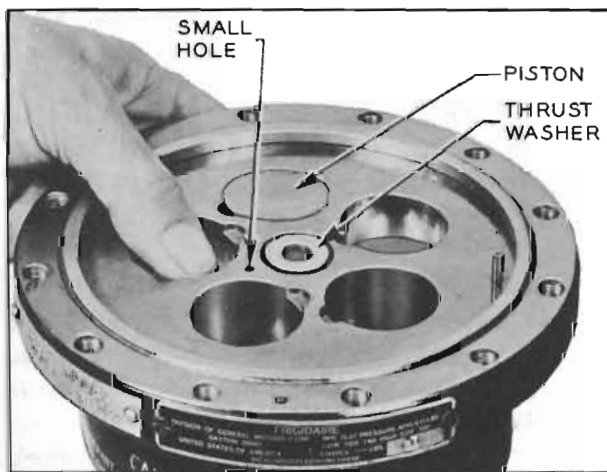
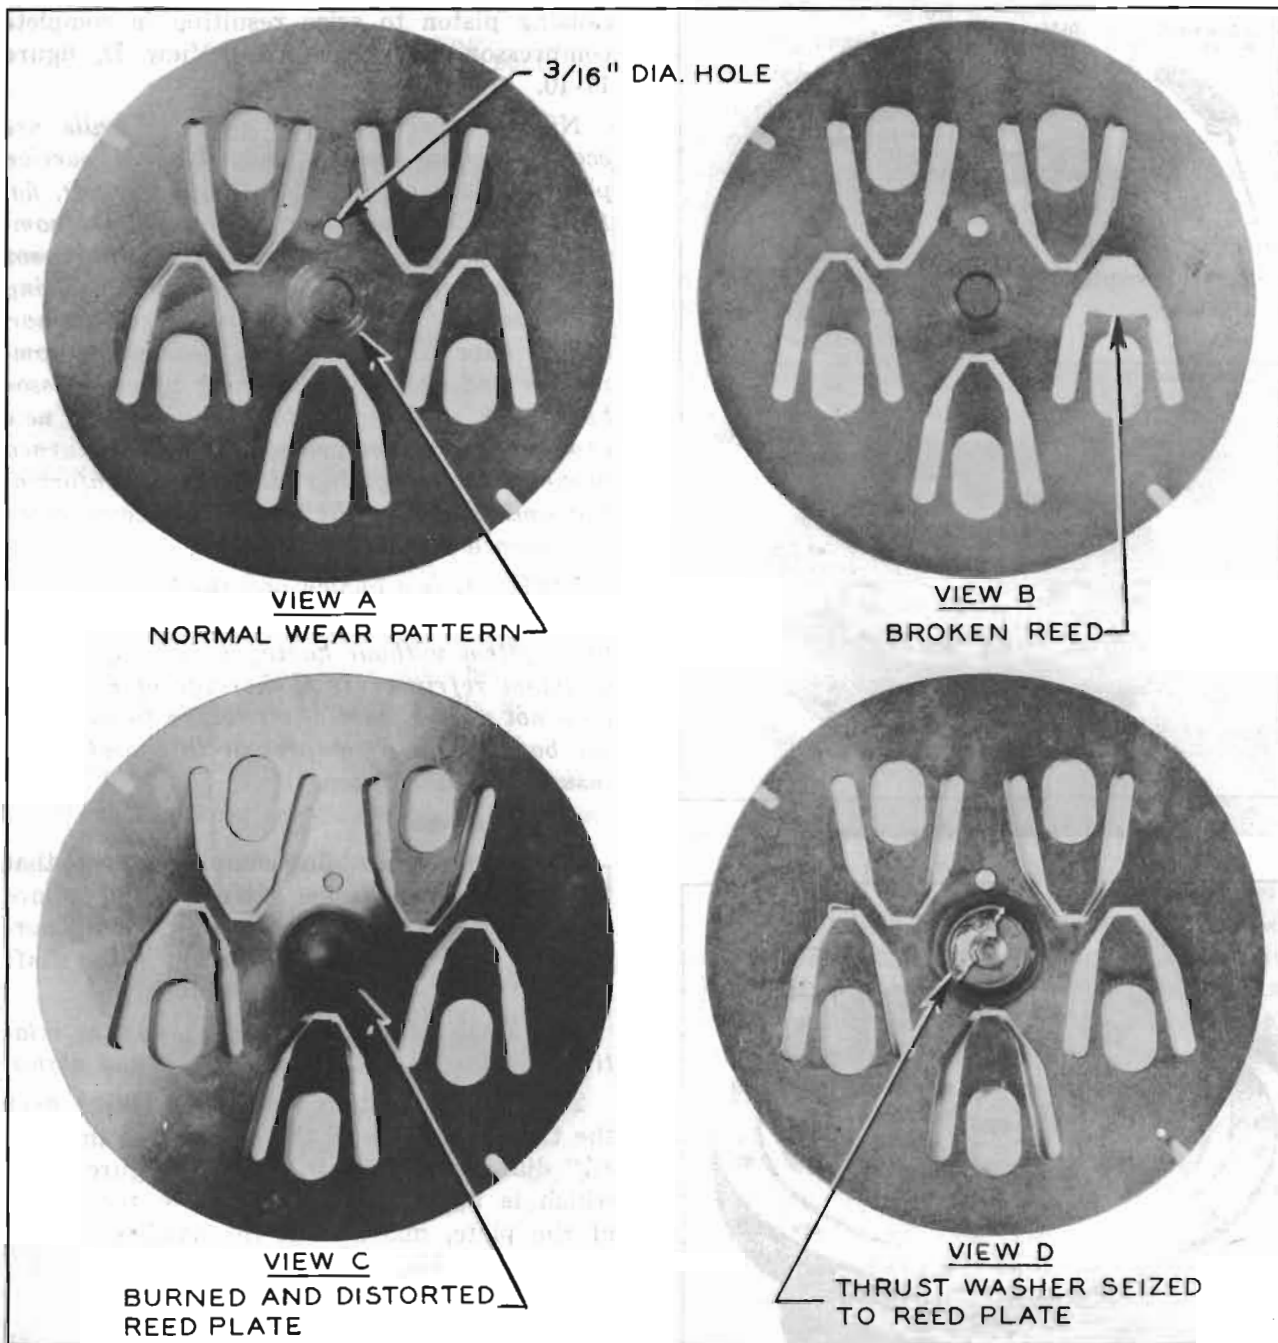

Figure 11-39—Inspecting Cylinder Bores
Figure 11-40—Suction Reed Plate
8. Fully depress each piston to bottom dead center using thumb pressure and inspect each cylinder bore and piston head for damage. See figure 11-39.
(a) A normal condition will be indicated by a slight circular burnished wear pattern at this location. See View A, figure 11-40.
(b) A normal wear pattern is indicated in View B, figure 11-40. However, a reed is broken.
(c) If there is evidence of an overheating condition, this will be indicated by a dark discoloration or burning of reed plate. This will usually distort the plate, rendering it worthless. See View C, figure 11-40.
(d) If compressor is allowed to remain in operation with condition shown in View C, figure 11-40, complete seizure of thrust washer to reed plate will result due to excessive heat,
causing piston to seize resulting in complete compressor destruction. See View D, figure 11-40.
NOTE: If compressor cylinder walls are scored, piston heads damaged or if suction plate appears as shown in View C or D, fig. 11-40 it will be necessary to replace the complete compressor assembly. Also if compressor had been contaminated by moisture resulting in corrosion of internal parts of the compressor, it will have to be replaced. Reassemble compressor and cover valve opening in compressor head with shipping plate removed from new compressor. Old compressor should be returned properly tagged giving all pertinent information and stating on the tag that the compressor was opened for Field Inspection.
2. Place the suction reed plate (thin) over the two dowel pins in the cylinder so that the $\frac{3}{16}$ " dia. hole shown in View A, figure 11-40 which is approximately $\frac{3}{4}$ " from the center of the plate, mates with the smaller hole in the cylinder block shown in figure 11-39. This hole is located between two of the piston bores.